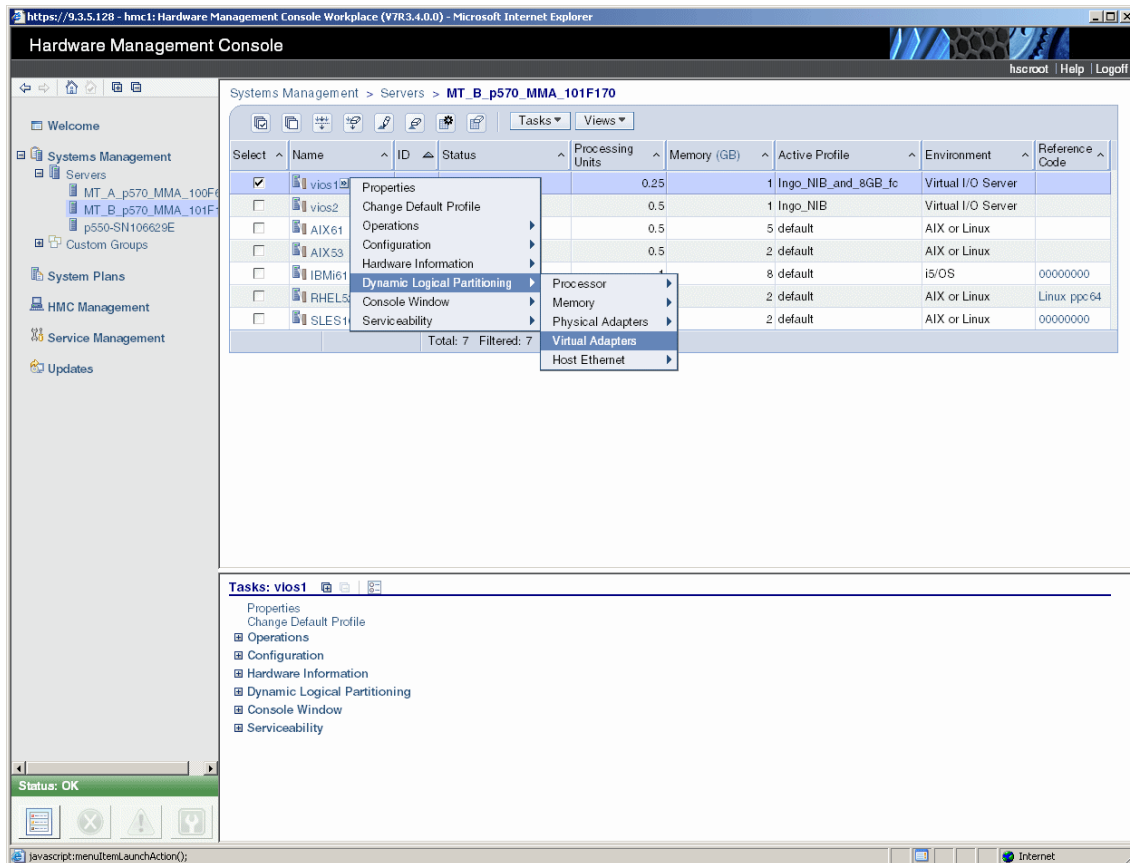

Figure 12-17 Add virtual adapter operation
- On the **Tasks** menu on the right side of the window, select **Dynamic Logical Partitioning** → **Virtual Adapters** as shown in Figure 12-17.